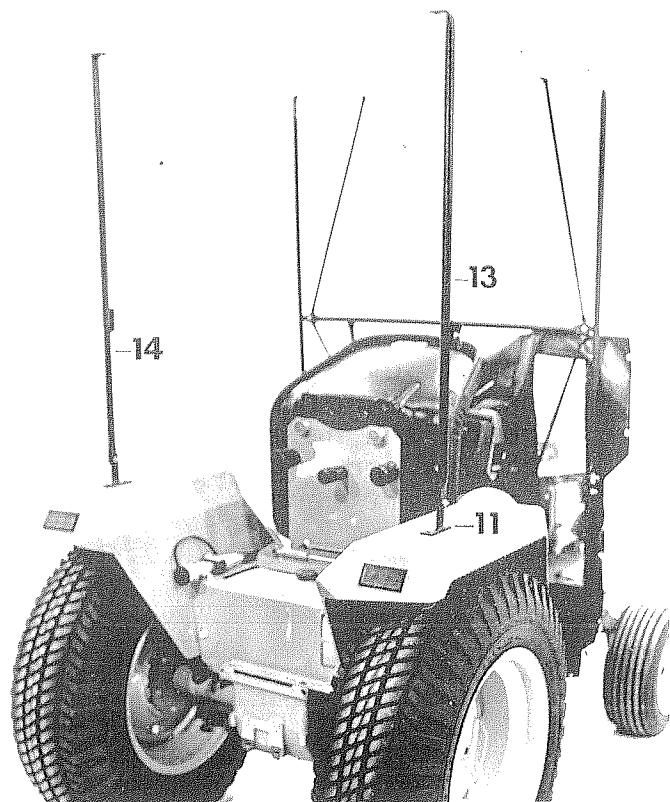

FIGURE 5
STEP 5; SEE FIGURE 5:
- A. Insert a bolt out through the right rear bracket (11 or 12) and then the lower end of the right REAR POST (13). Add a nut and tighten keeping the post vertical.